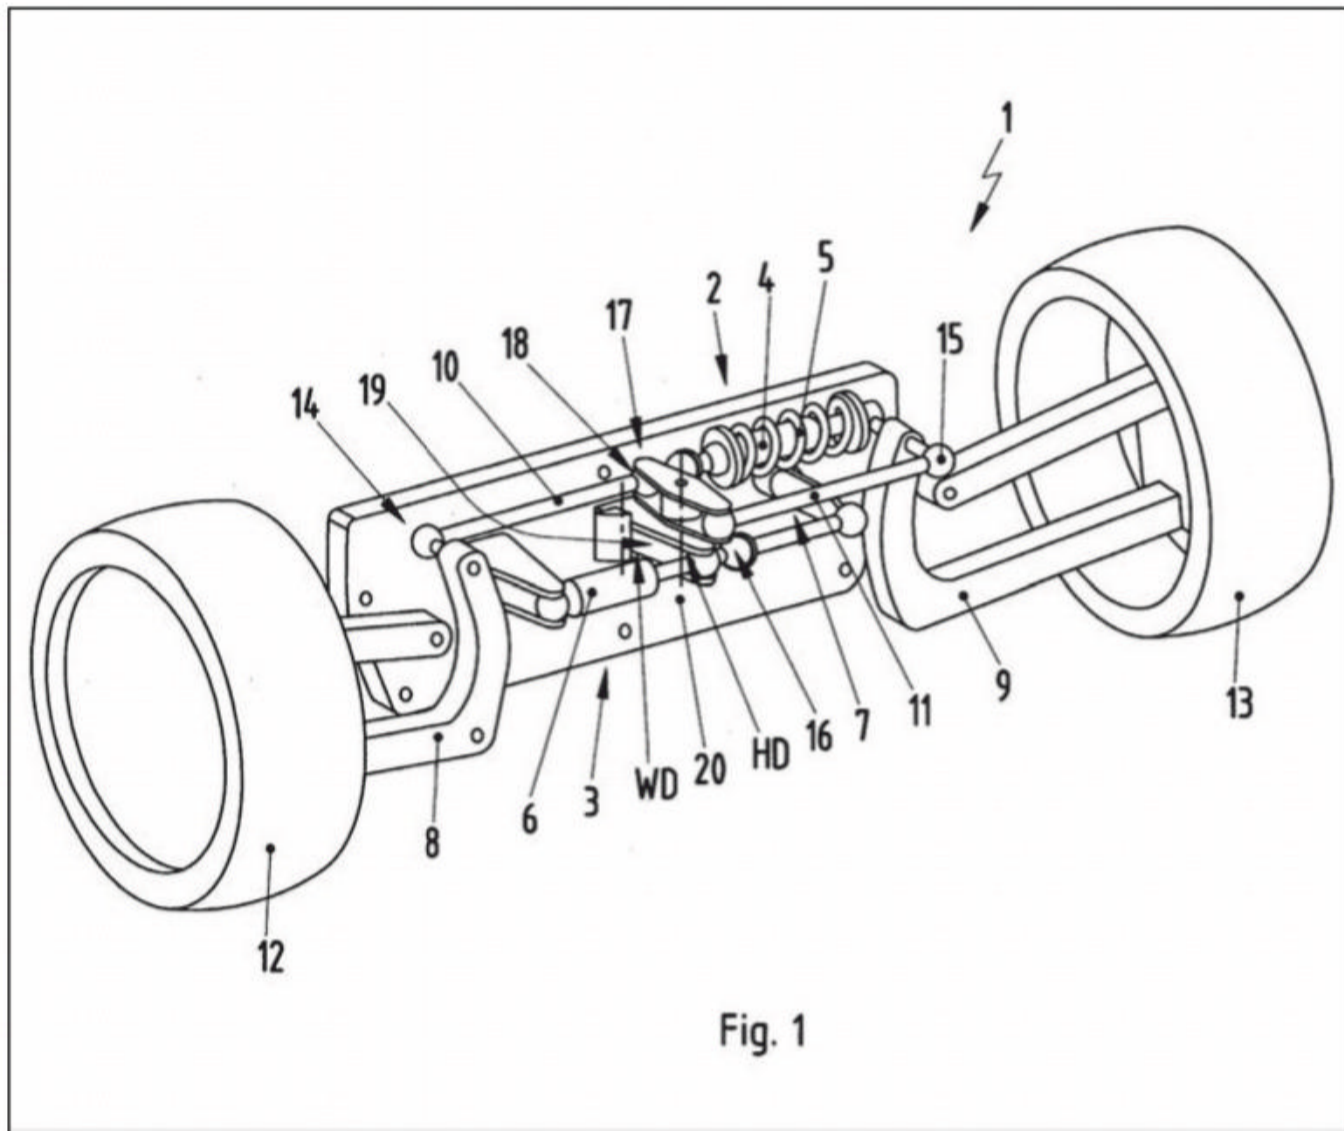

Figure 1: The decoupling system for a front suspension as shown in the patent (refer to text for key). With thanks to Porsche
Figure 1 is an illustration from the patent description. In this image items 4 and 5 are the coilover that springs and dampens ride, or synchronous motion of the right and left suspensions. It attaches to rocker 17 and lower control arm 9, which would be the one for the left wheel assuming that the illustration shows the system from the front. It functions like the 'third' coilover used in more conventional